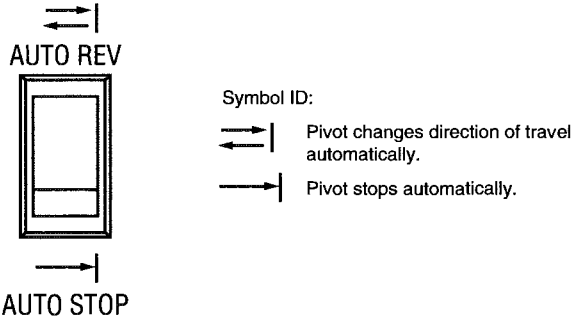

Figure 2.59
The assembly illustrated in figure 2.58 is used for both drive unit mounted auto stop and drive unit mounted auto reverse/auto stop (combined options). The auto stop option will stop the pivot when the actuator arm contacts the “trip structure”. If the auto reverse/auto stop option is installed, the operator may choose to either stop the machine when it reaches the “trip structure” or have the machine automatically change it’s direction of travel and continue to run. This can be selected with the Auto Reverse/Auto Stop Switch as illustrated in figure 2.59.
- If drive unit mounted auto stop or auto reverse/stop has been installed on the pivot as an option, then the operator must also enable this feature as explained in this section. This allows the switch in figure 2.59 to be active and causes the machine to change direction if the “Auto Reverse” position is selected.
- If only the drive unit mounted auto stop option has been purchased without the auto reverse feature, then the position of the switch in figure 2.59 does not matter. The pivot will stop when the actuator arm is tripped regardless of the position of the switch.